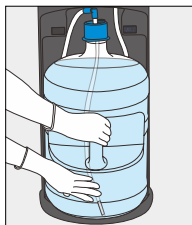

Figure 44
21. Slide bottle into cabinet and close the door (Figure 44 to Figure 45) (slide door downwards to close)